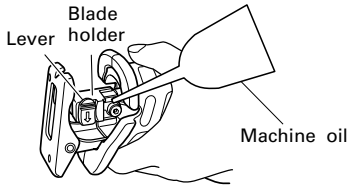

Fig. 8
- (1) After use, blow away sawdust, earth, sand, moisture, etc., with air or brush them away with a brush, etc., to ensure that the blade mount can function smoothly.
- (2) As shown in **Fig. 8**, carry out lubrication around the blade holder on a periodic basis by use of cutting fluid, etc.